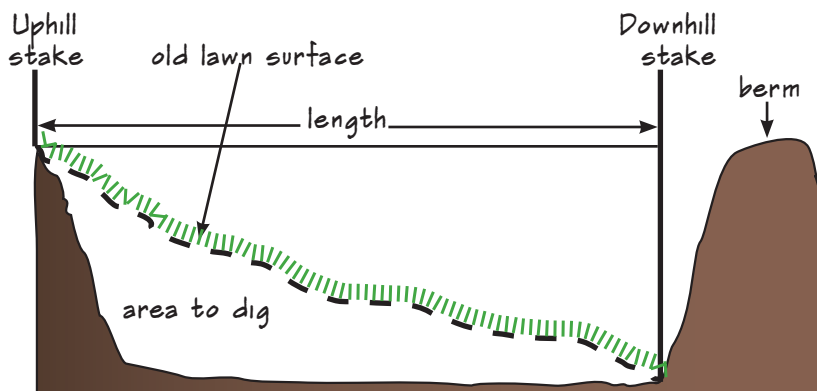

Figure 2. Where to dig and put the soil.
*On a Slope:* If the rain garden is on a slope, a berm or low wall is needed on the downside of the rain garden to hold the water in the garden (Figure 2). Create a berm while digging the rain garden by piling the soil around the downside garden edges. The berm should be the same height as the uphill side of the garden to make the entire perimeter of the garden level. After shaping the berm, compact the soil and cover with sod, mulch, or other stabilizing ground cover.